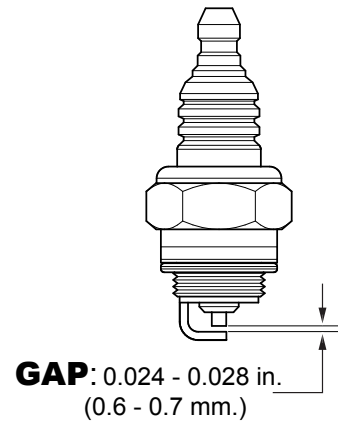

Figure 28. Spark Plug Gap
1. Remove and clean the spark plug (Figure 28), then adjust the spark gap to 0.024 ~0.028 inch (0.6~0.7 mm). This unit has electronic ignition, which requires no adjustments.